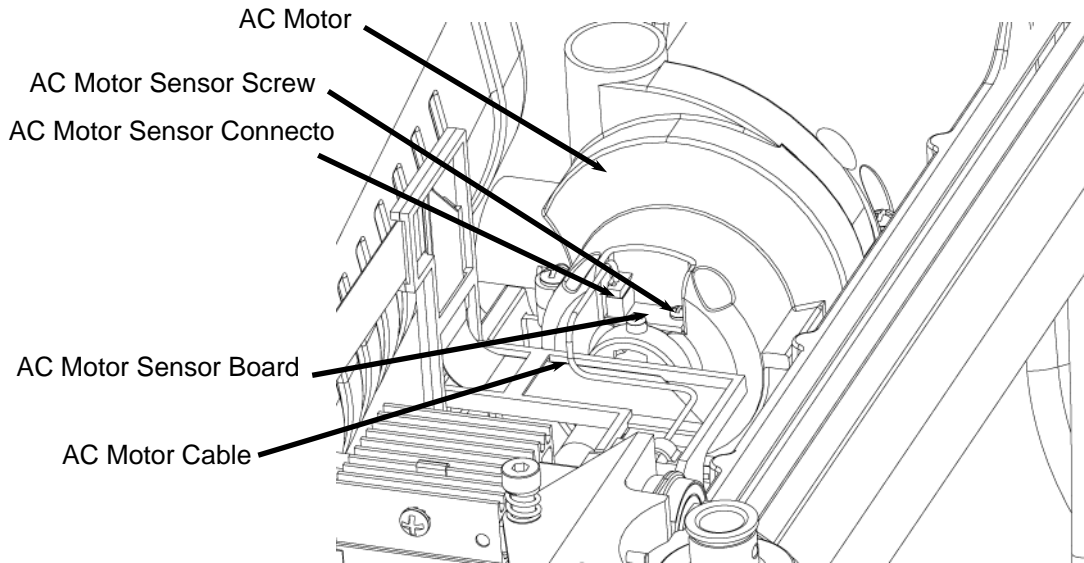

FIGURE 9: LOCATION OF AC MOTOR SENSOR
5. **Replace the AC Motor RPM Sensor.** Plug in the AC motor RPM sensor to the cable and replace the AC motor screw (See Figure 9). Be sure to test the RPM sensor before reassembling the rest of the machine by accessing the sensor check menus on the keypad (See Operators manual for more information).